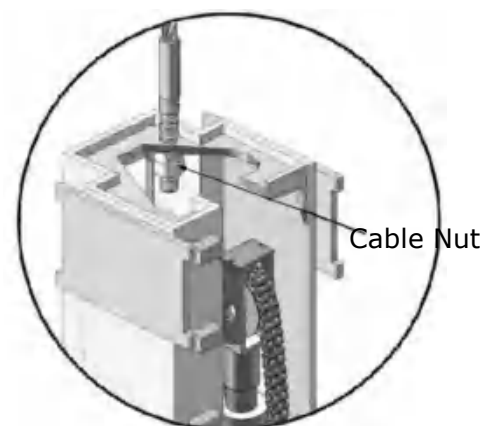

Fig. 35
1. Adjustment of synchronous cable (See Fig.35)